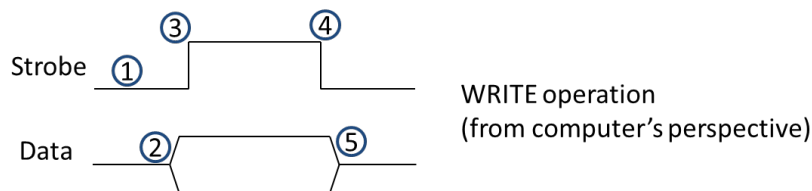

Figure 1. Write operation on the bus
The PIC microcontroller on the sensor device is connected to the embedded computer through the GPIO port. A viable pin assignment is shown in Figure 1 although there can be certainly other possible assignments. Over the GPIO port, five signal lines (D3-D0 and Strobe) are available. The data bus (D3-D0) is **4-bit**. The control signal is **Strobe** driven by the Galileo board to synchronize the information exchange between the sensor device and the embedded system.
The steps (in Figure 1) involved in the write operation are as follows.
1. Design a user space application on Yocto Linux to directly access the GPIO port of an Intel Galileo board and control the Strobe signals and data bus as described in Figures 1 and 2.
3. Design firmware for the PIC microcontroller on the sensor device to support the read and write operations as described in Figures 1 and 2.